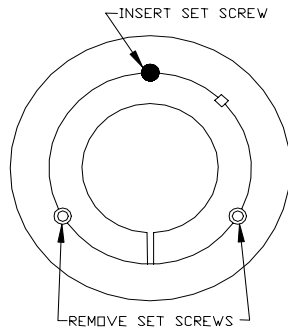

Figure 7
6. To remove the pulleys, remove the taper lock bushing set screws as shown (figure 7, page 3-3).